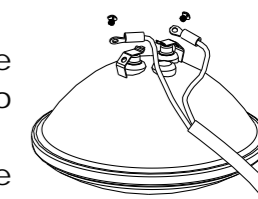

Figure 9
- 3) Remove the lamp and gasket from the inside of the base of the underwater light by disconnecting the two terminals, loosening the two screws which secure them to the lamp, see Figure 9.